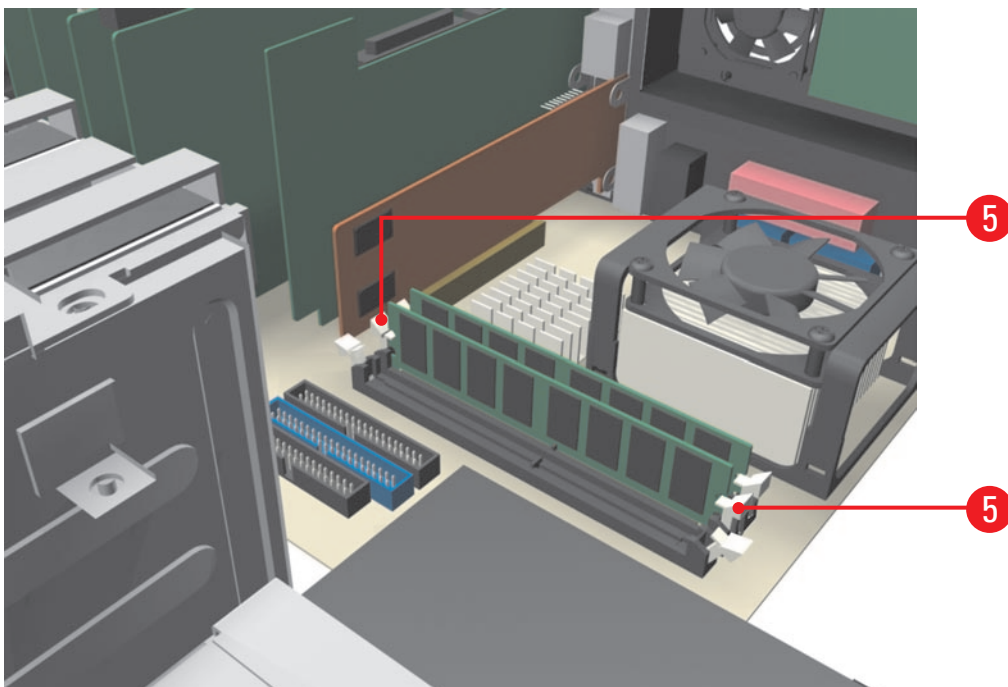

Figure 9. Seating and Securing the DIMM Module
5. Carefully, but firmly, push the DIMM module into the empty socket until it is properly seated. The module is properly seated when the retaining clips snap back into place as in Figure 9.